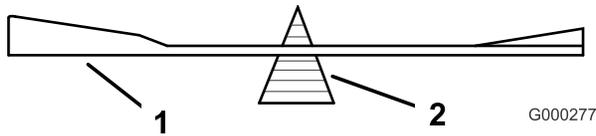

Figure 57
2. Check the balance of the blade by putting it on a blade balancer (Figure 57). If the blade stays in a horizontal position, the blade is balanced and can be used. If the blade is not balanced, file some metal off
the end of the sail area only (Figure 57). Repeat this procedure until the blade is balanced.